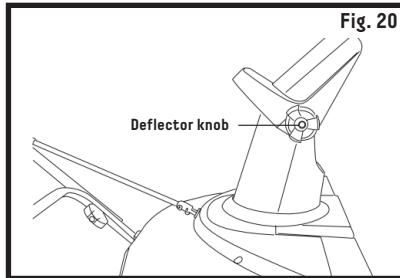

Fig. 20
2. The chute deflector on the top of the discharge chute controls the height of the snow stream. Loosen the knob to raise or lower the deflector to the desired height of snow you wish to throw. Tighten the knob to secure the deflector (Fig. 20).
- Do not overtighten the knobs on the chute deflector (Fig. 20).